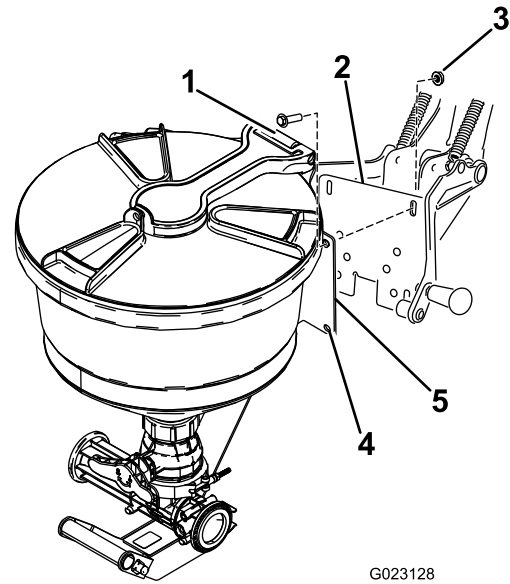

Figure 22
- Align the holes in the eductor mount plate with the slots in the cradle support frame (Figure 22).